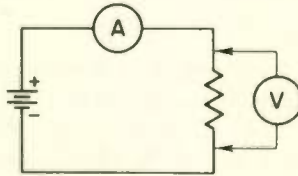

Fig. 4
5. In Fig. 4, meter A reads the current flow through the resistor R , and voltmeter V reads the voltage drop across R .